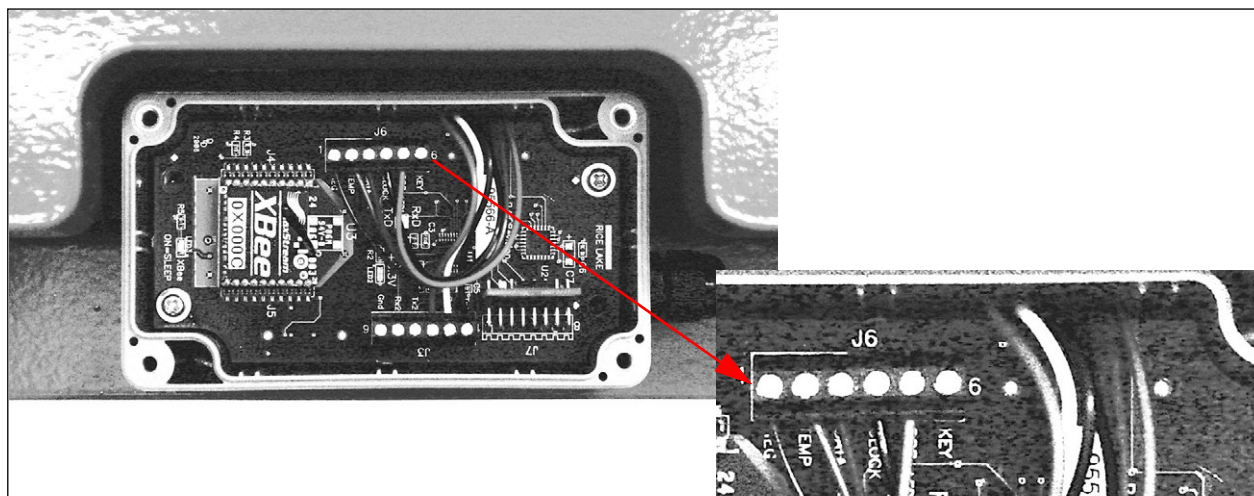

Figure 4-17. Inside of Junction Box - Top Board
The second board, or upper board is pictured in Figure 4-17.
5. Connect wires from the bottom board as shown in Figure 4-17 and Table 4-11 connecting into J3 and J6 connectors.